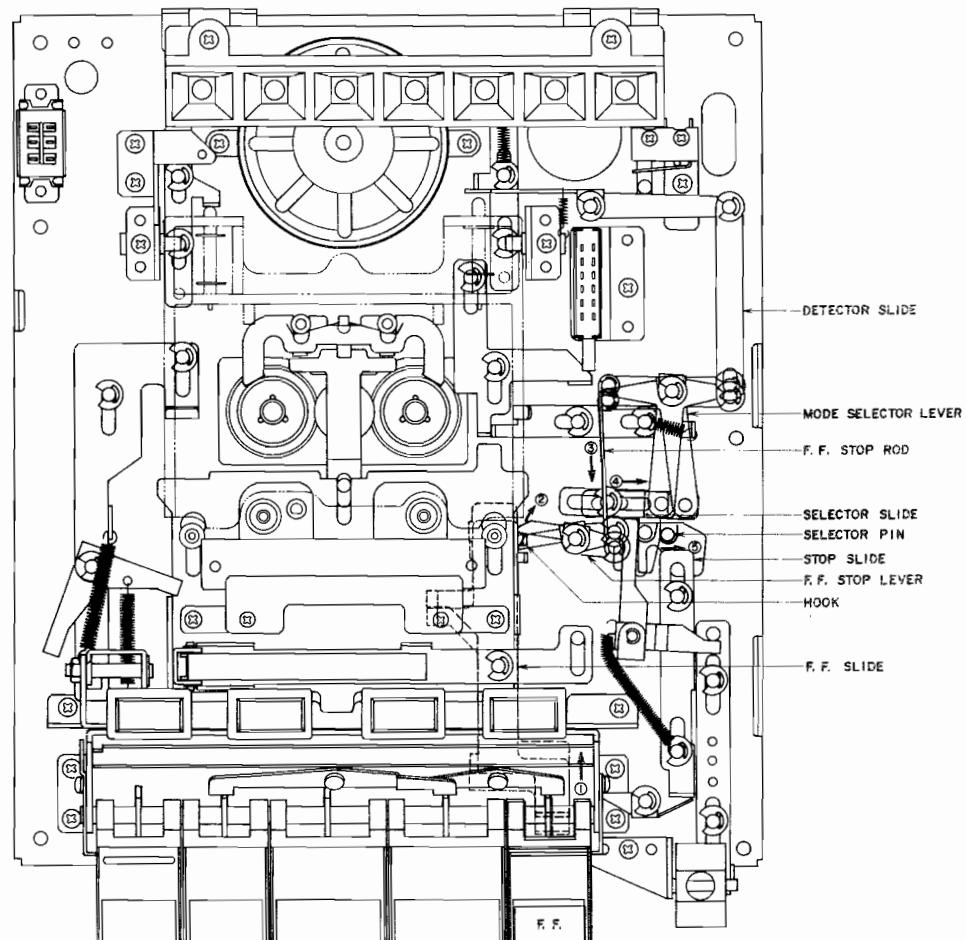

Fig. 34 From STOP to F.FWD Mode
(Refer to Fig. 34)
- When the Keyboard Block F.FWD Button is depressed, the Fast Forward slide is pushed out as shown by arrow mark (1) in the figure.
- The Fast Forward stop rod which is interlocked with the Fast Forward stop lever pulls the Mode Selector lever (Refer to arrow mark (3) in Fig. 34).
- The Mode Selector lever pulls the selector slide and the selector pin moves to the position shown at (2) in Fig. 34.
- Because at FWD recording mode, the recording pin enters the cassette pack and the detector lever pulls the Mode Selector as shown by arrow mark (1) in Fig. 34, the selector slide pushes the selector pin to above the stop slide.